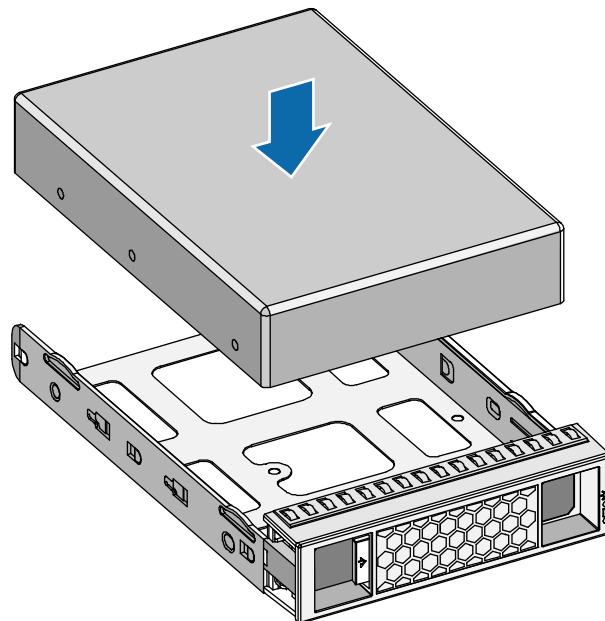

Figure 2-16 Fix hard disk
Step 3: Shown as the figure 2-16, place the hard disk into the hard disk box and fix it around the box with the screws.